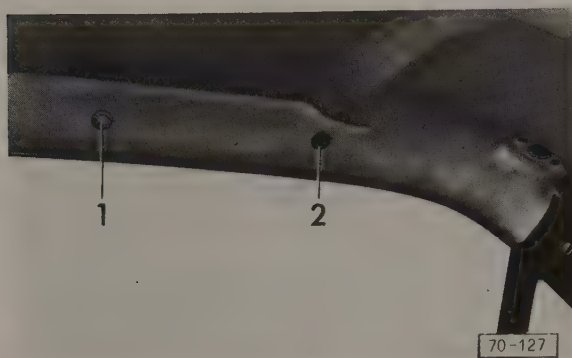

Fig. 4-49. Plastic caps **1** and screws **2**, of retaining clips to be removed.
7. Remove the outer headliner mounts. On Jettas, pry the plastic caps from the headliner and remove the screws shown in Fig. 4-49. On Golf and GTI, pry out the retaining clips.